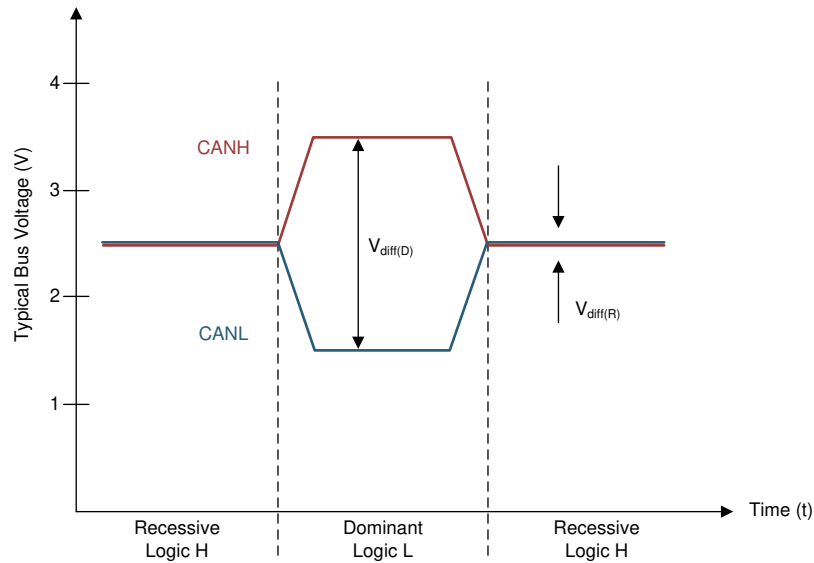
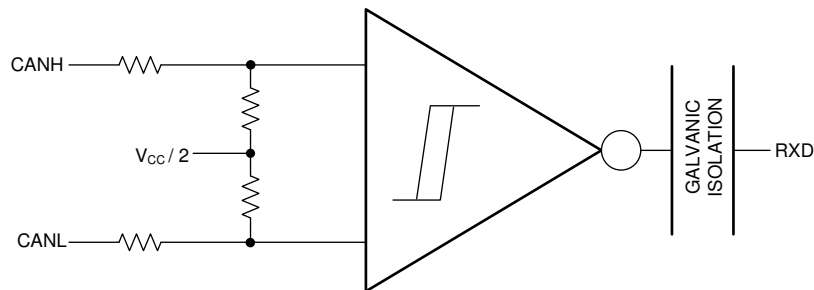

Figure 25. Bus States (Physical Bit Representation)
Figure 26. Simplified Recessive Common Mode Bias and Receiver
The CAN bus has two states during operation: *dominant* and *recessive*. A dominant bus state, equivalent to logic low, is when the bus is driven differentially by a driver. A recessive bus state is when the bus is biased to a common mode of $V_{\text{CC}} / 2$ through the high-resistance internal input resistors of the receiver, equivalent to a logic high. The host microprocessor of the CAN node uses the TXD pin to drive the bus and receives data from the bus on the RXD pin. See Figure 25 and Figure 26.
- (1) H = high level, L = low level, Z = common mode (recessive) bias to $V_{CC} / 2$. See Figure 25 and Figure 26 for bus state and common mode bias information.